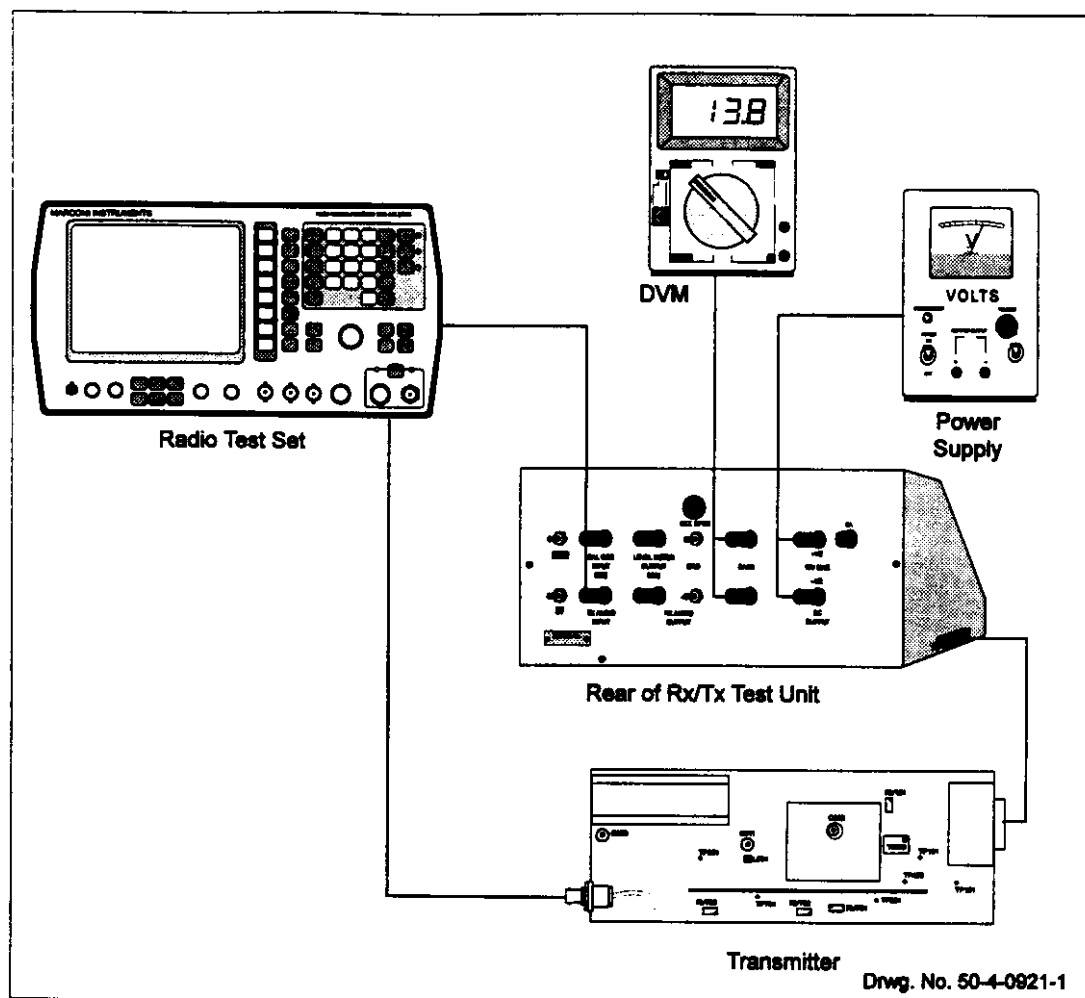

Figure 9.8: Modulation Deviation Set-up
1. Connect the transmitter PCB to the test equipment as shown in Figure 9.8.